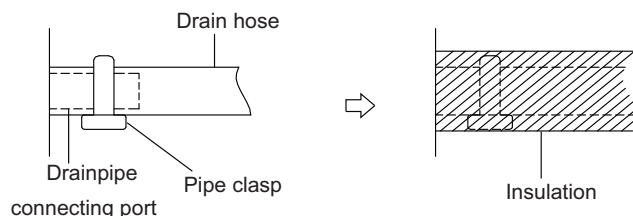

Fig. 37 —Indoor Drainpipe Installation
2. Attach the mouth of the drain hose to the unit's outlet pipe. Sheath the mouth of the hose and clip it firmly with a pipe clasp (see Fig. 37).